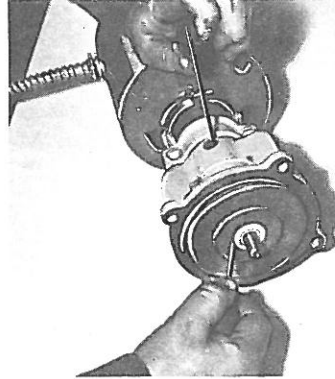

FIG. 6
6. Now the **Water Seal Assembly** may be removed part by part and should be laid out on a piece of paper to note the order of part removal so that later re-assembly may be made in sequence. Using a blunt knife between ceramic and rubber portion of the seal located in the casting, remove the ceramic, then the rubber. Be sure that the brass washer remains in place. Clean the casting with detergent in the area formerly occupied by the seal just removed. (See Fig. 6)